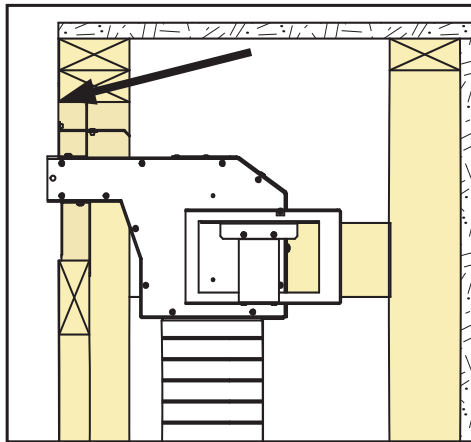

Figure 20. CSS - Top Standoff
Step 3: Insert the assembled CSS into the framed rough opening by rotating it down slightly to allow the outlet and standoffs to pass through. When installed correctly the front flange of the top standoff should be up against the front face of the top stud (Figure 20).
Step 4: Confirm the CSS is centered within the rough opening and secure in place using screws or nails through the four (4) holes along the top edge of the top standoff.